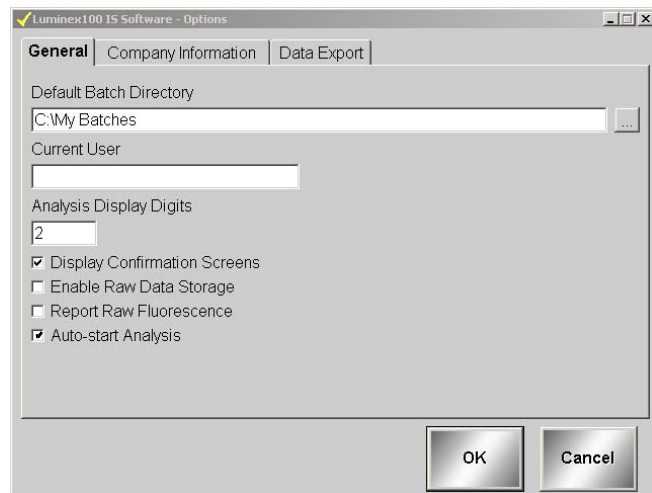

Figure 5-73 Options Dialog Box—Select Auto-start Analysis
1. On the **Tools** menu, click **Options**, and then click on the **General** tab. See Figure 5-73.